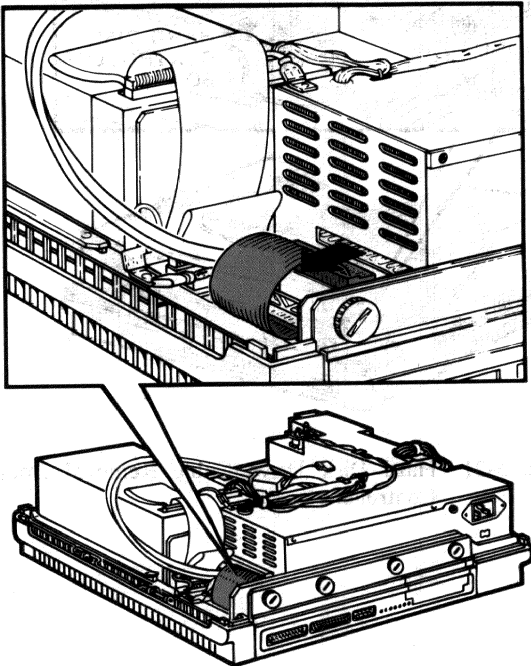

Figure 5-20 Power Cable Removal
3. Unplug the power cable from the power supply (Figure 5-20).